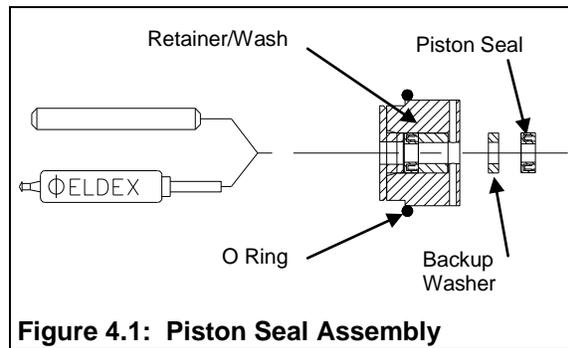

Figure 4.1: Piston Seal Assembly
3. Remove the liquid end from the pump as follows: Unscrew the two 5/32" socket head bolts. Pull the liquid end straight out from the pump housing, in line with the axis of the piston. If you cock or tilt the liquid end, you may break the piston. See Figure 4.1.
- Reinstall the liquid end on the pump. See Figure 4.1.